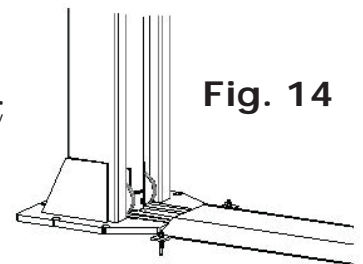

Fig. 14
7.11 Installation Of Floor Plate (Ref. Fig.14)